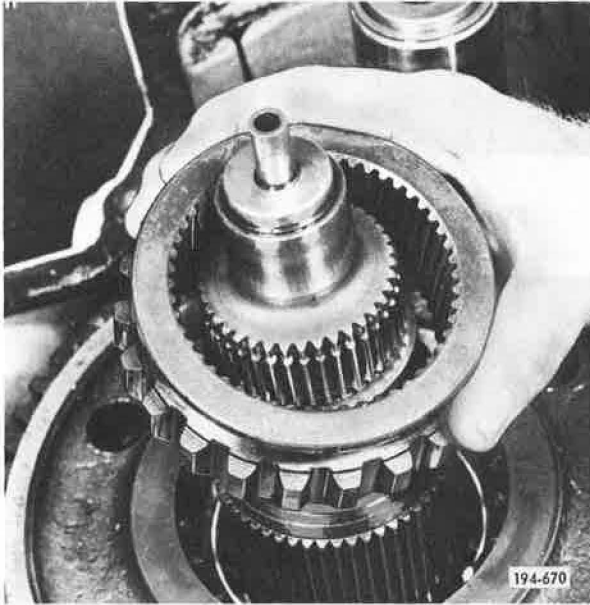

Figure 5-258. Removing Sliding Clutch
6. Remove first speed gear sliding clutch. See Figure 5-258.